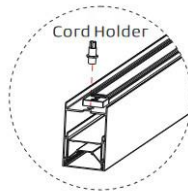

Figure 1
1. Take off the end cap. Insert the cord holder into the power cord location as shown. (Figure 1)